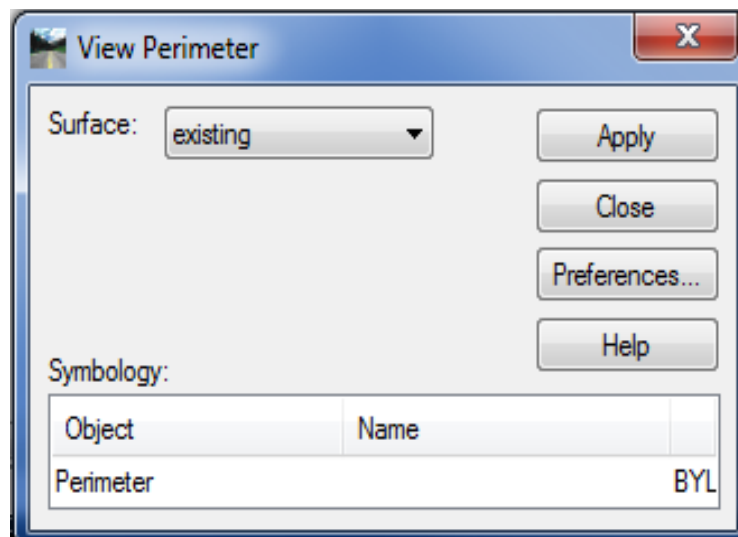

Figure 2-1 InRoads View Perimeter Dialog Box
- B. On the InRoads Main Menu Bar click on Surface > View Surface > Perimeter, Figure 2-1.